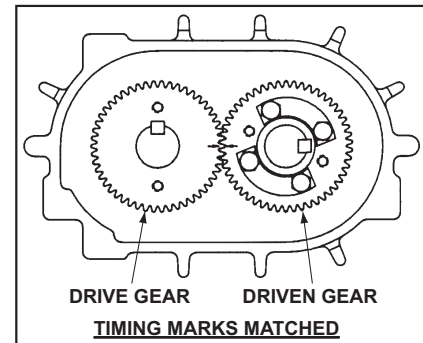
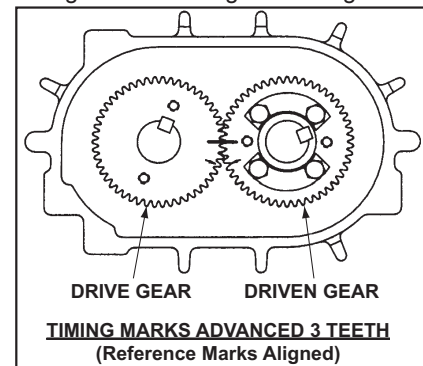

Figure 10 - Timing Marks Aligned
Figure 11 - Timing Marks Advanced Three Teeth
8. Align timing marks on gears (Figure 10). Rotate drive gear clockwise approximately three teeth and mark a matching reference line on each gear as shown in Figure 11. This gear position is necessary so rotors will clear and not jam. Do not allow the gears to move from the matched reference line while pulling. Use a light rocking motion to insure that the lobes have not jammed. Remove driven gear first, and then drive gear.
- Stand rotors on press with drive rotor [1] on the left, making sure keyways are properly positioned as shown in Figure 11. You may use the drive end plate as a temporary fixture to support the rotor lobes while pressing on the bearings and gears.
- Lubricate shafts and keys and press drive gear (right hand helix) on drive rotor. To install driven gear, align reference marks as shown in Figure 11. Tap gear with mallet to start, then press the gear until seated.